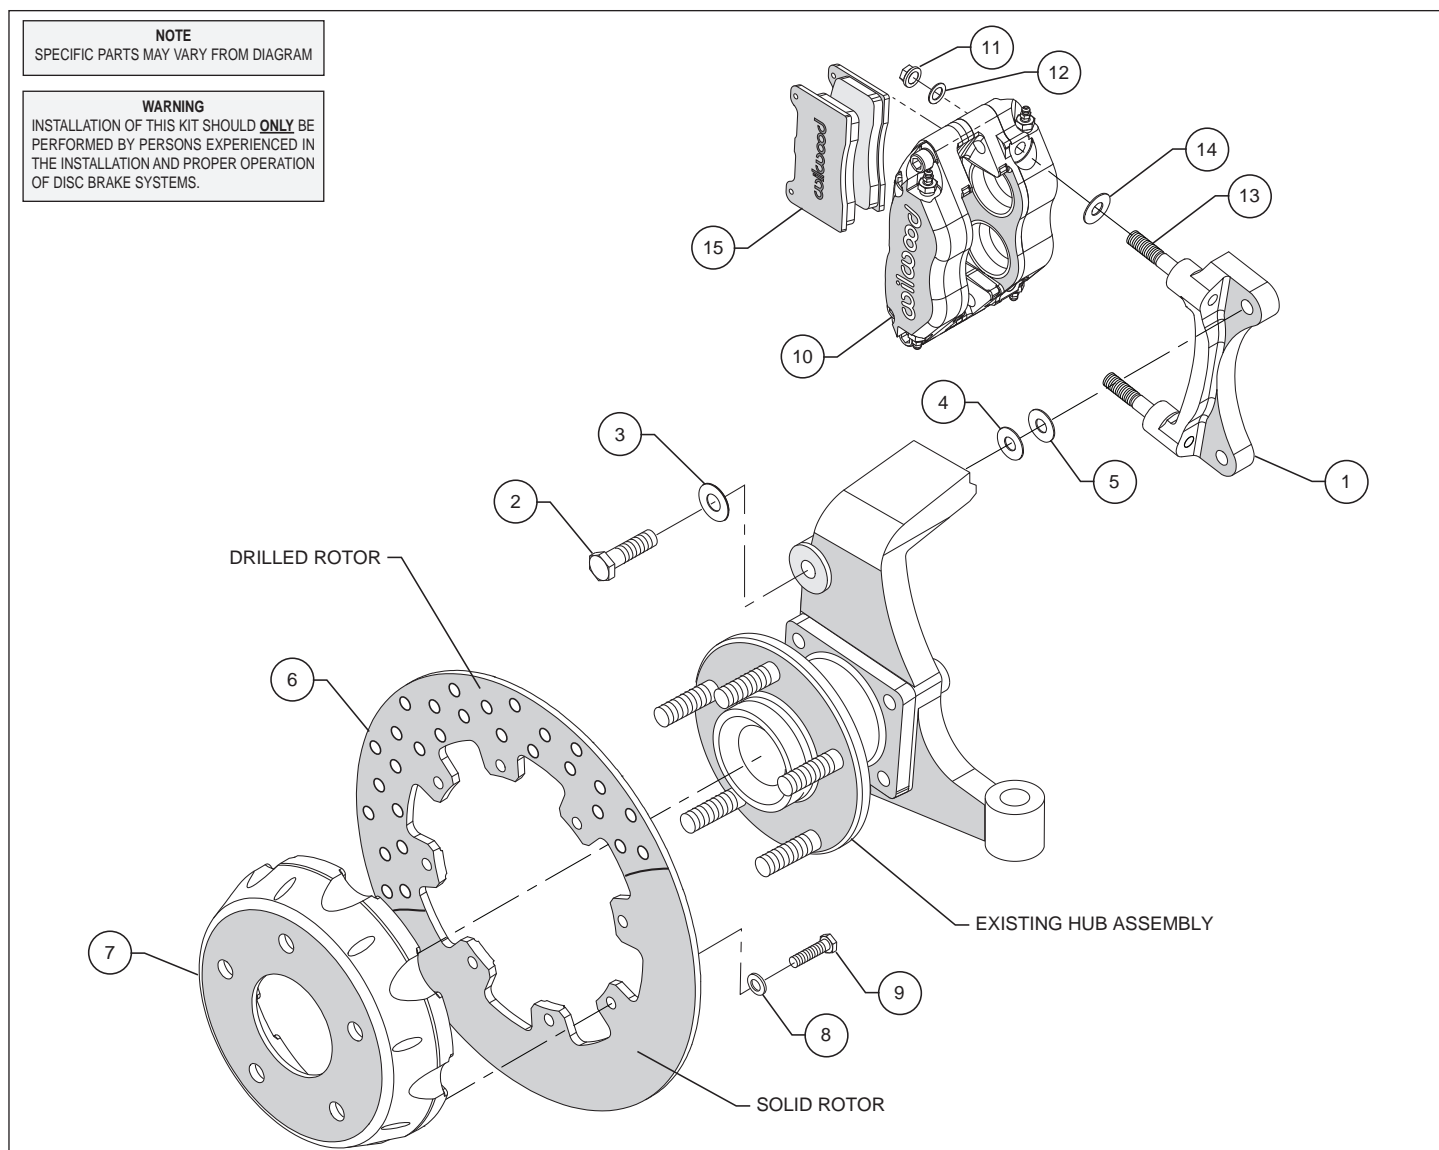
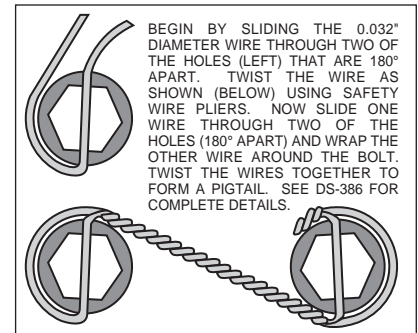

Figure 1. Typical Installation Configuration
Figure 3. Safety Wire Diagram
- The caliper mount bracket assembly (1) should be installed first with clean, dry threads on the mounting bolts. Install the bracket on the inboard side of the spindle by sliding bolt (2) through flat washer (3), and spindle ear from the outboard side of the spindle. Place two shim washers (4) between the bracket (1) and the spindle (see figure 1). The bracket must tighten squarely against the inboard side of the caliper mount bosses on the spindle body. Inspect for interference from casting irregularities, machining ridges, burrs, etc. Later, after the caliper, pad, and rotor alignment has been checked, and any necessary shims have been put in place, the mount bolts should be coated with red *Loctite*® 271 and torqued to 65 ft-lbs.
- With the notched side of the rotor (6) facing away from the hat (7), bolt the rotor (6) to the hat (7) through the backside of the rotor using washers (8) and bolts (9) provided in the configuration pictured in figure 1. Using an alternating sequence, apply red *Loctite*® 271 to the threads and torque bolts to 25 ft-lb. For an added measure of security, the bolts may be safety wired using standard 0.032 inch diameter stainless steel safety wire as shown in Figure 3.